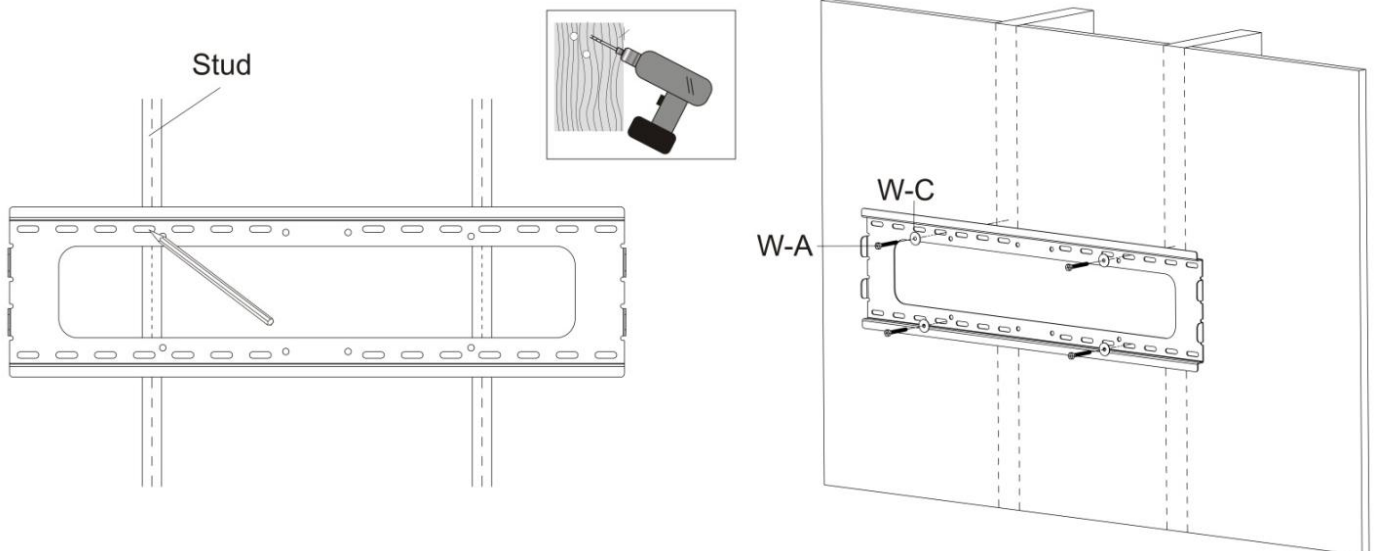

Fig. 2
- 3) Drill four 1/8" (3mm) dia. holes 1.2" (30mm) deep. Secure it by using four lag bolts (W-A) and four M6 washers (W-C) as shown in Fig. 2.